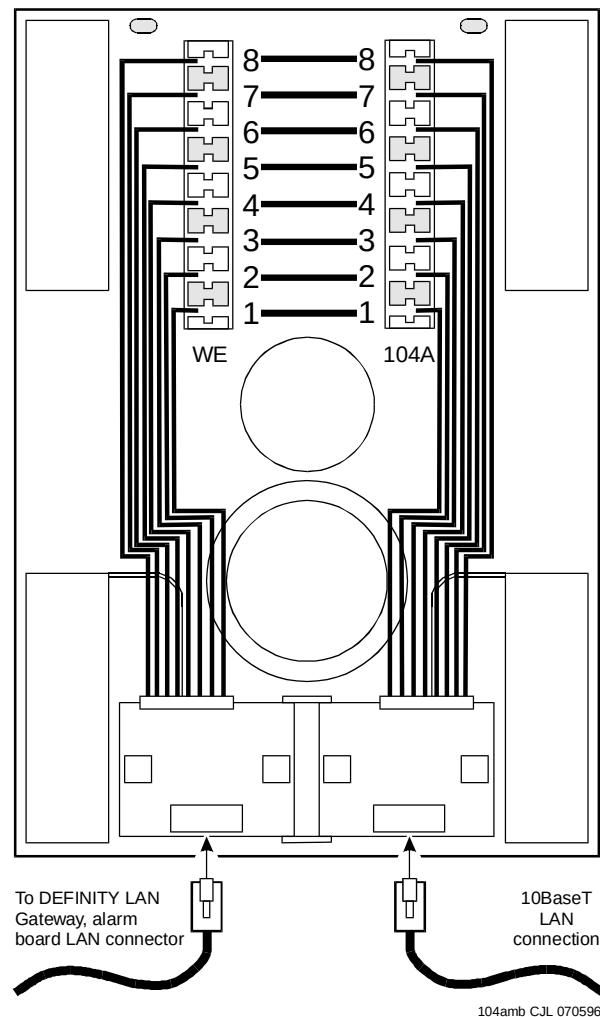

Figure 12-90. 104A Mounting Block
- A 104A connecting block will be mounted on the wall within reach of this connector. This is supplied by Lucent Technologies. Eight wires must be hard-connected across the two mounting blocks inside the 104A prior to mounting it to the wall, as shown in Figure 12-90. The ends of each wire are stripped of insulation. A punch-down tool is used to press the ends of these eight wires into the mounting blocks. Four protector caps snap over the top of the mounting blocks.